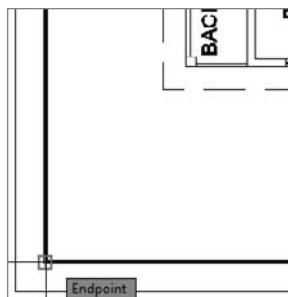

FIGURE 14.1 Choosing the base point for the title block
4. From the Block Definition dialog box, enter **TTLB-8H11** for the block’s name. Click the Pick Insertion Base Point button, and pick the endpoint in the lower-left corner of the internal boundary shown in Figure 14.1.